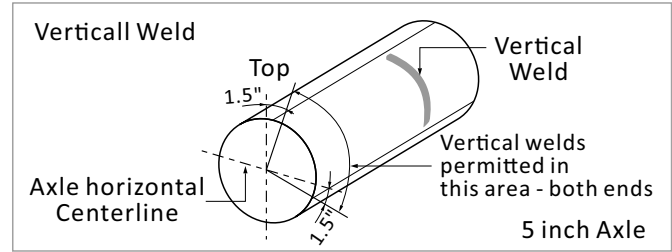

FIGURE 14
- » Vertical welding is not allowed on 5-inch (127 mm) diameter axles more than one-inch (25.4 mm) below the axle horizontal centerline. (Figure 14)